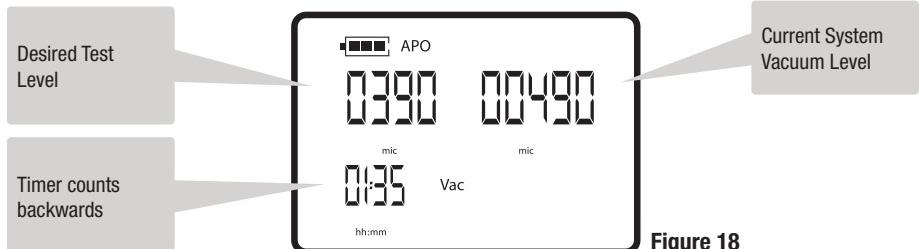

Figure 18
- 3) Press **SET** to start test. Starting test vacuum level is indicated in Upper Left Display (**FIG. 18**). Current system vacuum level is shown in upper right of display and timer is shown in lower left. The timer decrements and when zero, a bells sounds and test ends. At end of test, Start vs. Final Vacuum levels will be displayed to enable determination of any vacuum loss over a set period of time.